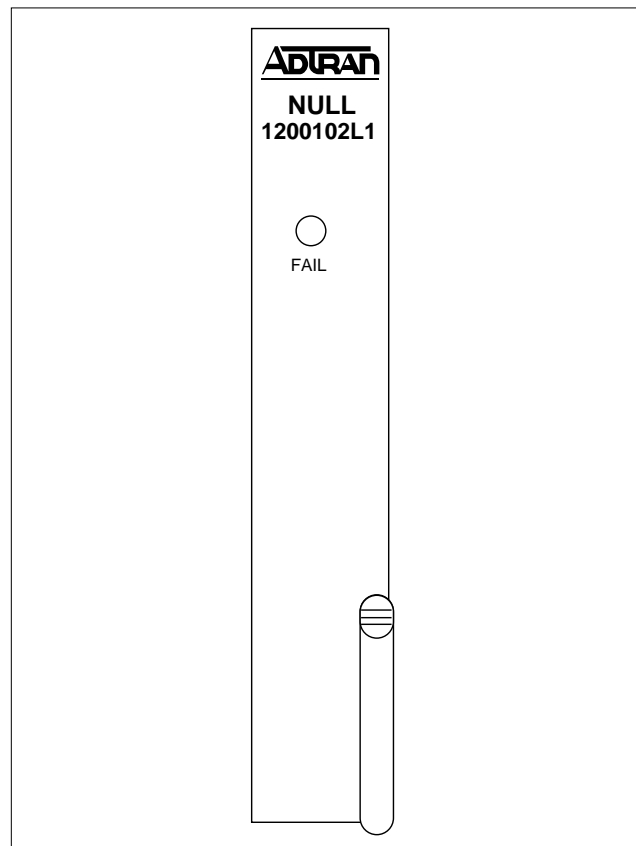

Figure 3. SLC-5 NULL Card Faceplate
2.2 **Figure 3** is an illustration of the ADTRAN SLC-5 NULL card faceplate. There is one LED on the front panel of the ADTRAN SLC-5 NULL card. The FAIL LED indicates the status of the allocation of additional time slots to the NULL card by the BCU. The FAIL LED remains *On* until the BCU allocates the additional time slots. The FAIL LED turns *Off* when the additional time slots have been allocated.